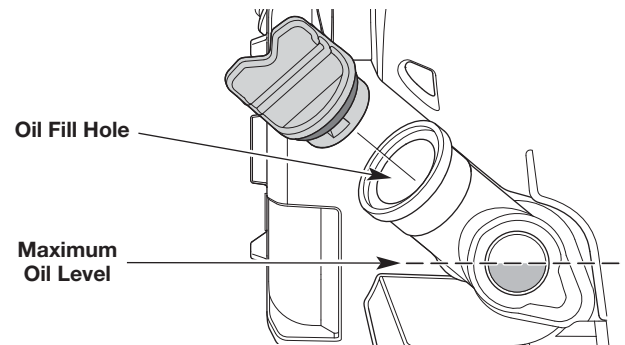

Fig. 20
3. Look into the oil level window; use a flashlight if necessary. **The oil level should fill the window approximately halfway** (Fig. 20). If the oil level is too low, add oil. Refer to *Adding Oil*.
3. Add oil to the oil fill hole until the oil level is approximately halfway up the oil level window (Fig. 20).